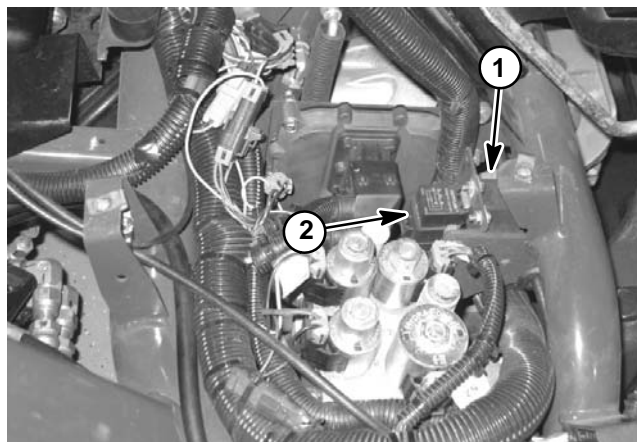
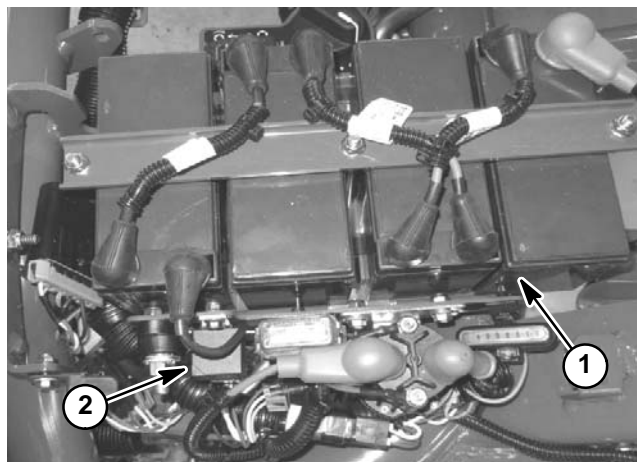

Figure 74
Figure 75
The Greensmaster TriFlex Hybrid electrical system includes several identical, four (4) terminal relays for current control. Most of these relays are located under the right side cover next to the operator seat (Fig. 74). The electric cutting reels enable relay is located under the left side cover next to the operator seat (Fig. 75). Relays can be identified by a tag near the relay wire harness connector.